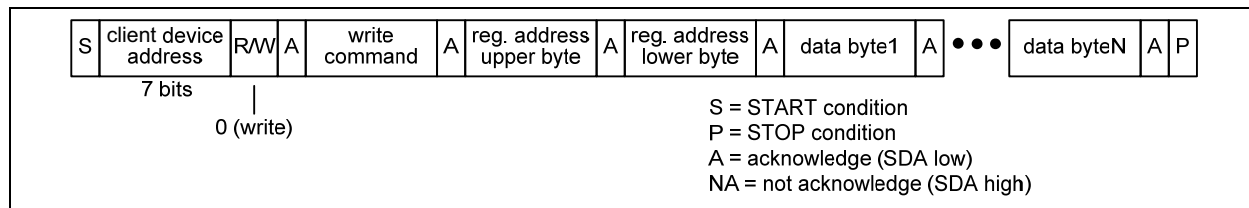

FIGURE 5-7: I²C Register Write Transaction Functional Timing.
Register Write Transactions. The device registers are accessible when **EESEL=0**. The bus server does an I²C write to the device. The first three bytes of this transaction are the SPI Write command (see Table 5-6), the upper byte of the register address, and the lower byte of the register address. Subsequent bytes are data bytes to be written. After each data byte is received, the device writes the byte to the write address and then increments the write address. The bus master terminates the write with a STOP condition (P). See Figure 5-7.